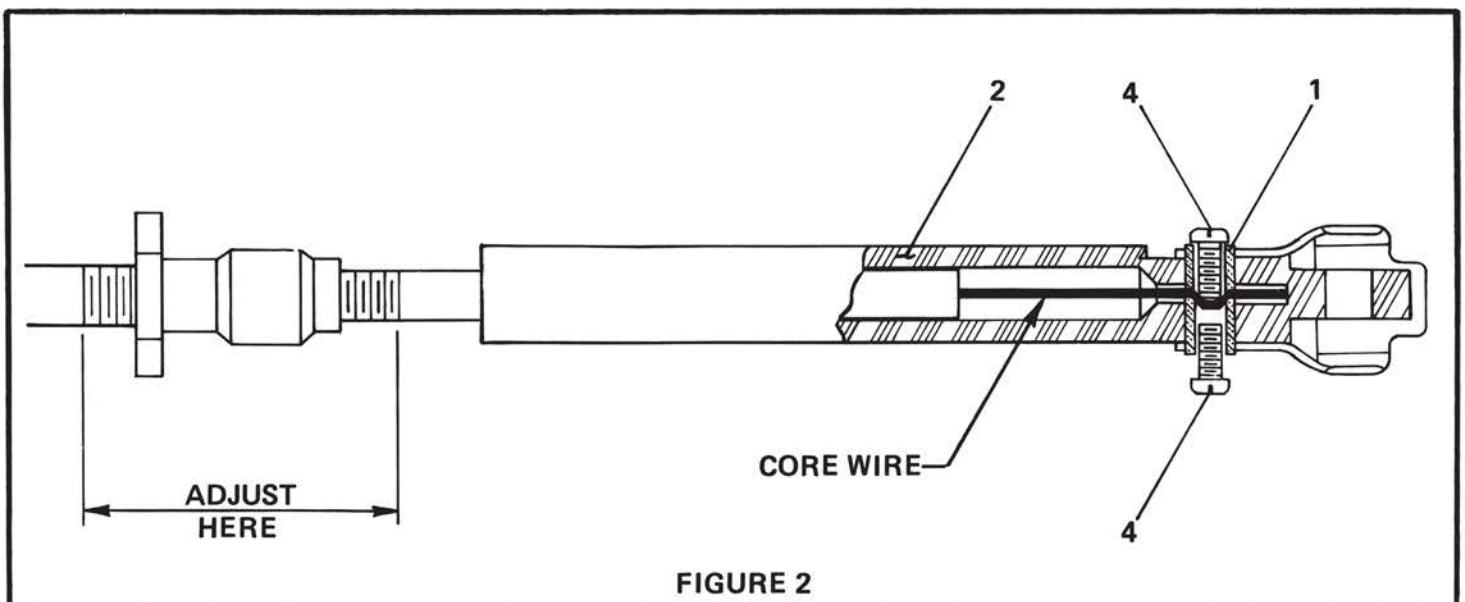

FIGURE 2
3. Hold Insert in position and feed core wire through Insert. The core wire must pass fully through the Insert and bottom in Casing Guide (See Figure 2).
1. Install and adjust control cable to engine in accordance with engine manufacturer's instructions. Cable travel may be adjusted by rotating Cable Adjustment Nut in the appropriate direction (See Figure 2). **DO NOT ATTEMPT TO ADJUST CABLE TRAVEL BY MOVING THE CASING GUIDE ON THE CORE WIRE.**